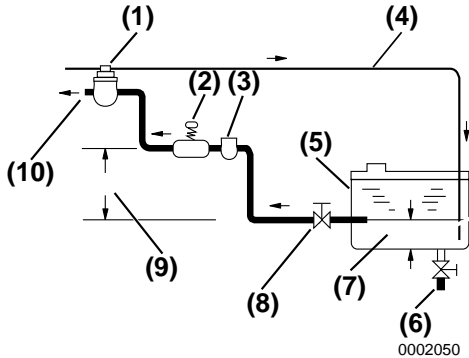

Figure 1
Be sure to install a drain cock (Figure 1, (6)) at the bottom of the fuel tank to remove water and contaminants.
Install a fuel filter / water separator (Figure 1, (3)) and a fuel filter between the fuel tank and the fuel injection pump.